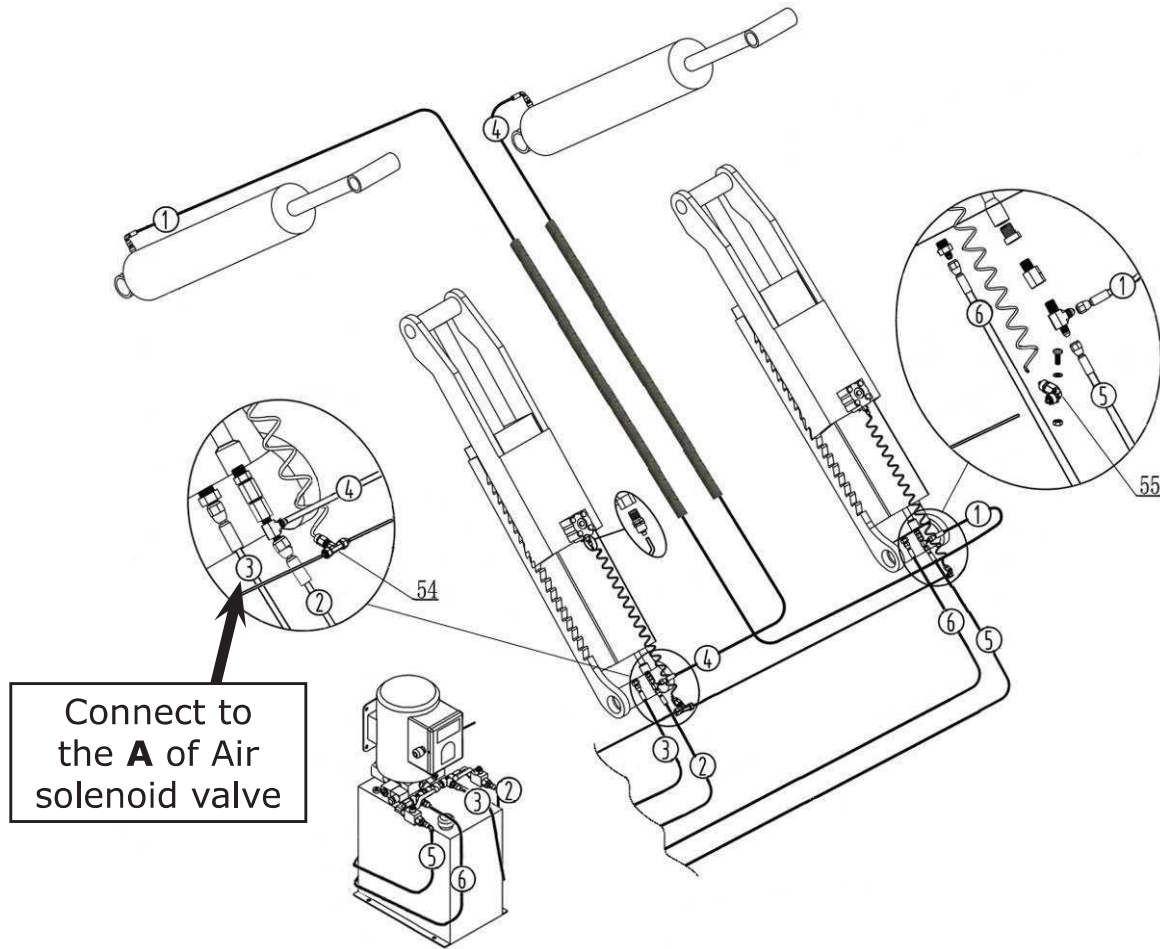

Fig. 15
2.2 Control cabinet installed in the right of the car in direction (**See Fig. 15**).